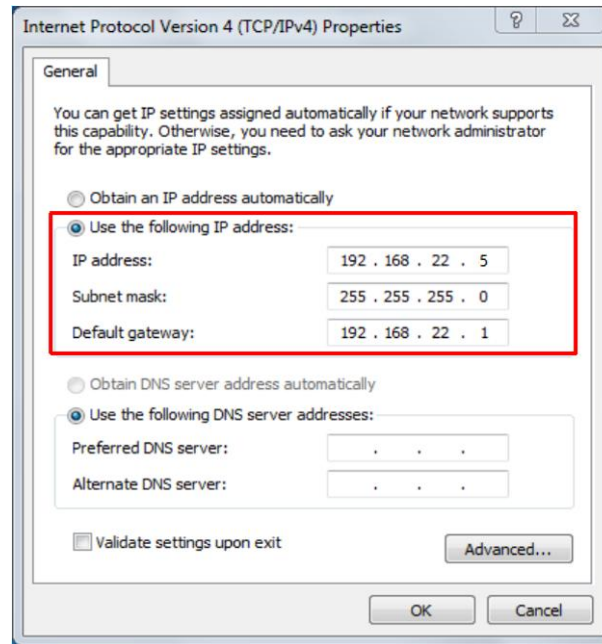

Figure B-7b. Control Computer Network Setting
**2nd step:** please open **Control Panel > Network and Sharing Center > Local Area Connection > Properties > Internet Protocol Version 4 (TCP/IPv4)** on the control computer, as shown in figure B-7b.